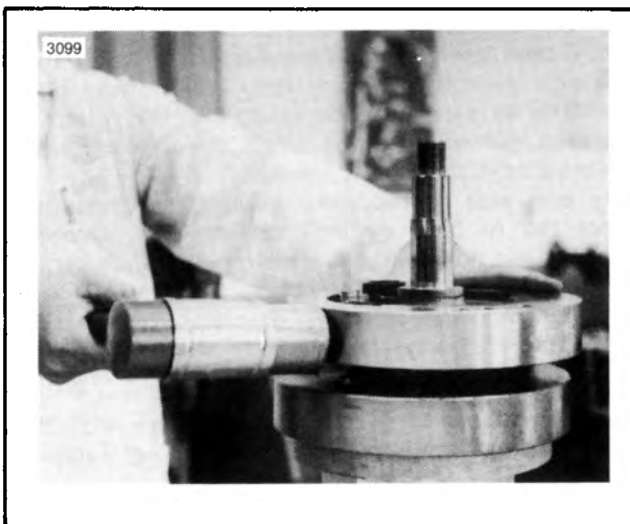

Figure 3-51. Loosen Flywheels
2. See Figure 3-51. Remove flywheel assembly from fixture and insert pinion shaft end into the fixture.